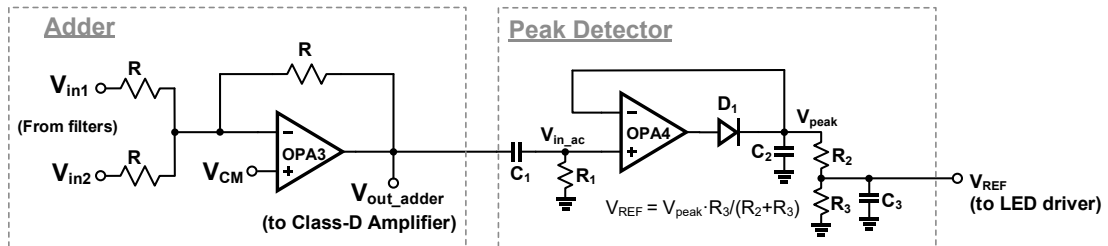

Figure 4-7 Adder and Peak Detector
2. Design and simulate the entire circuit shown in Figure 4-7 with above calculated values. Verify the operation with measurements 1 to 11.